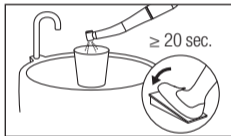

Fig. 15
- 4 Operate the handpiece at the chair-side for at least 20 seconds to purge fluids from the handpiece (Fig. 15). After the handpiece rotation has completely stopped, touch the handpiece head to confirm the head is NOT heating abnormally.